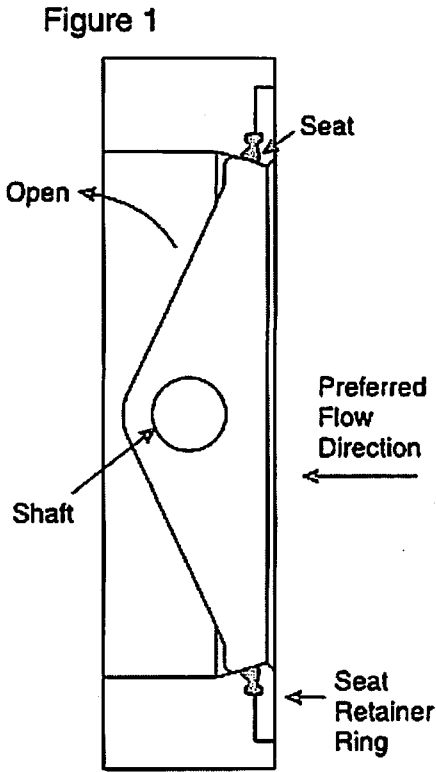

Figure 2
1. Loosely install the lower flange bolts to form a cradle between the flanges. See Figure 2.